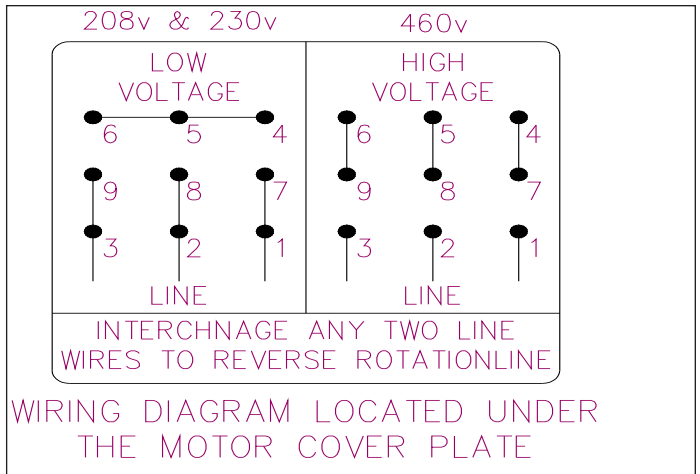

Figure 24.2
6. If switching fan voltage refer to **Figure 24.2**.